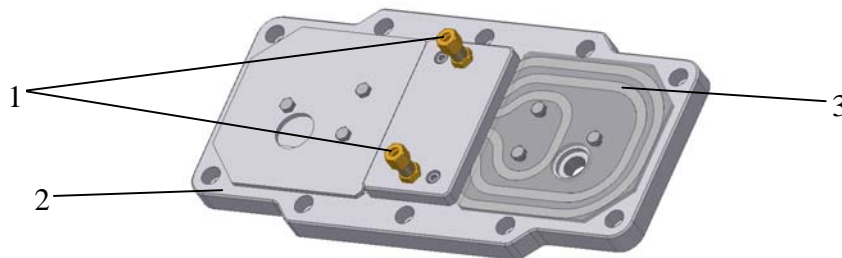

Figure 35. Cooling Cover
Cutting ring screw threads (see Item 1, Figure 35) are located at the casing cover for the connection of a pipe with an external diameter of 10 mm according to DIN 2353.
2. **Make sure not to twist the screw necks during or after assembly** as the cooling coil may be damaged (see Item 3, Figure 35). You must ensure that no external forces act on the cooling coil.